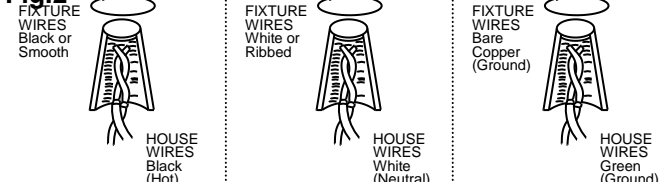

Fig.3
### Replacing LED module (Fig.3)
The LED module can be replaced by a qualified electrician without cutting the wires and without damaging the decorative element to which the fixture is attached. See installation steps for more details (Fig.3)
- a. Loosen finial (U) and remove the plastic washer (T).
- b. Loosen screws (S) and remove the glass shield (R).
- c. To remove the fixture from the ceiling: loosen the cap nuts (M) and remove the wire connectors. Then place the fixture on a clear flat surface (Fig.3).
- d. Remove the cup (Q), then loosen screws (X) and carefully remove the LED module (W) from the ceiling pan (I).